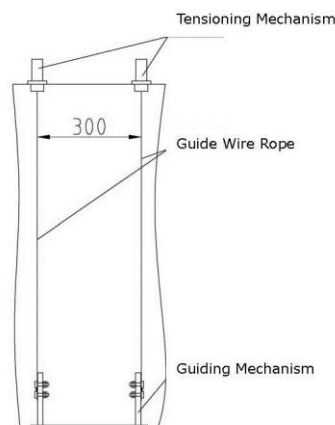

Figure 5 Installation
6.2.2 The bottom guiding mechanism and the buoy are taken into the tank from the inlet hole. By observing the perpendicularity of the guide wire at the top, it is determined that $\leq 2^\circ$, and the bottom guiding mechanism is welded and fixed to the bottom of the tank. (Figure 5)